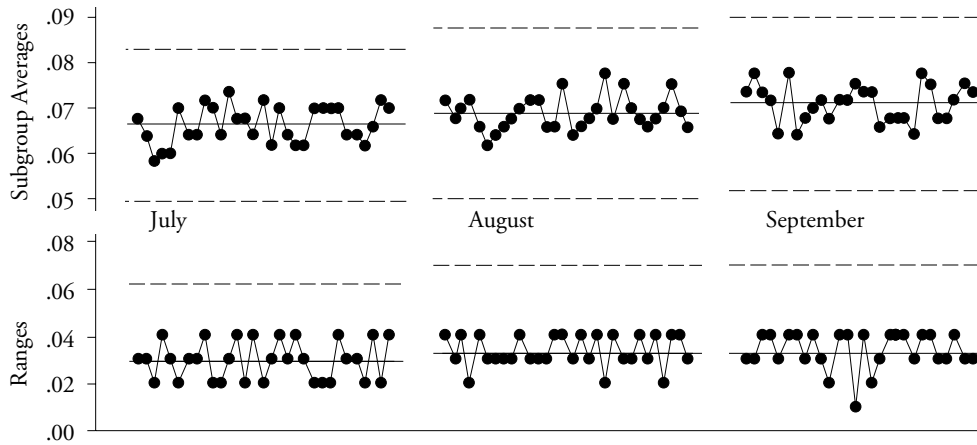

Figure 9: Average and Range Charts for Surface Run-Out
**Example Nine:** Another supplier collected data every two hours to manage surface run out. They stored the data in a file cabinet—one sheet of paper for each day. Until the data were plotted, they had no idea that the process was getting worse month by month by month, as may be seen in Figure 9. A little bit here, a little bit there; a gradual drift towards destroying their reputation. *Plot the data. Take action.*